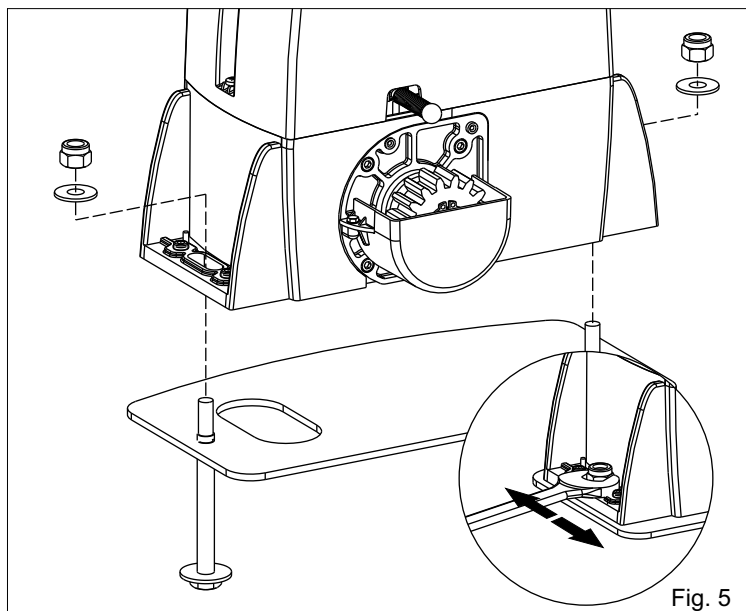

Fig. 5
4.2. Fix the motor reducer to the foundation plate with the 2 included nuts, adjusting the side position (Fig. 5) so to respect the shown quota in (Fig. 2).